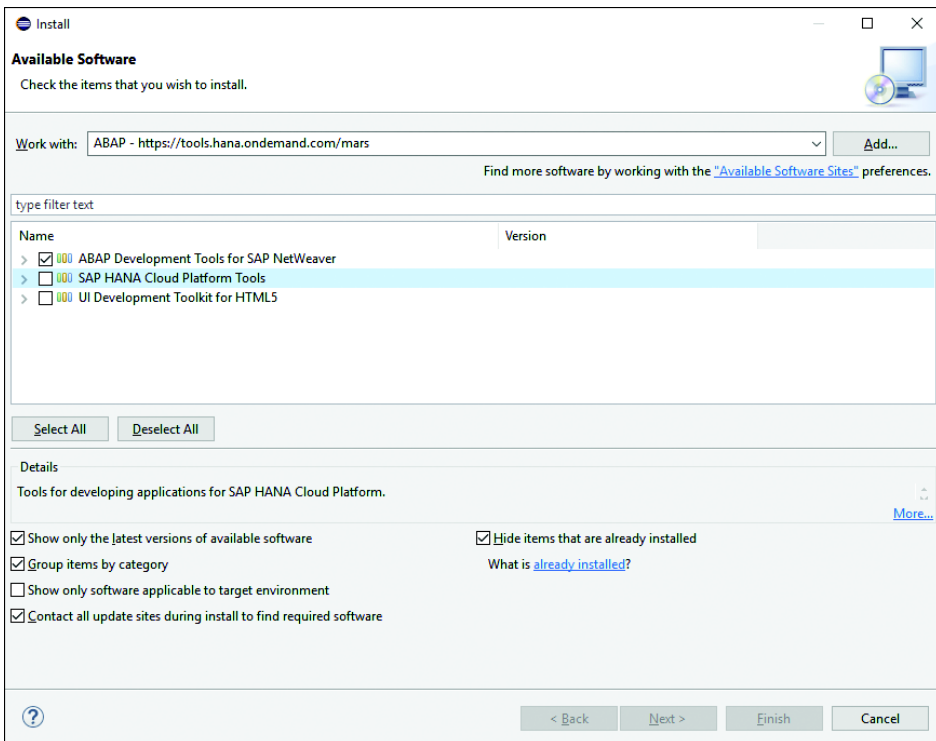

Figure 3.19 Eclipse Installation Wizard
4. In the installation wizard, enter the URL in the **WORD WITH** field and click **ADD** to see a list of the available tools (see Figure 3.19). From the list, select **ABAP DEVELOPMENT TOOLS FOR SAP NETWEAVER** and click **NEXT** to continue.